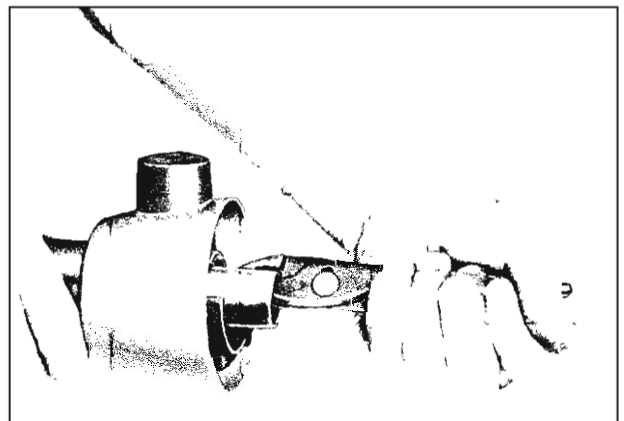

Fig. 21—Removing Upper Spacer
6. Using a pair of pliers, pull out upper spacer (fig. 21). Remove locking plate shift lever support housing and upper adjusting ring.